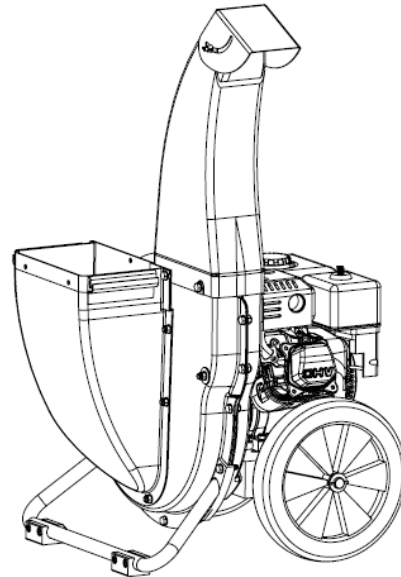

Figure 3
6. Attaching the chipper discharge chute (Figure 3)